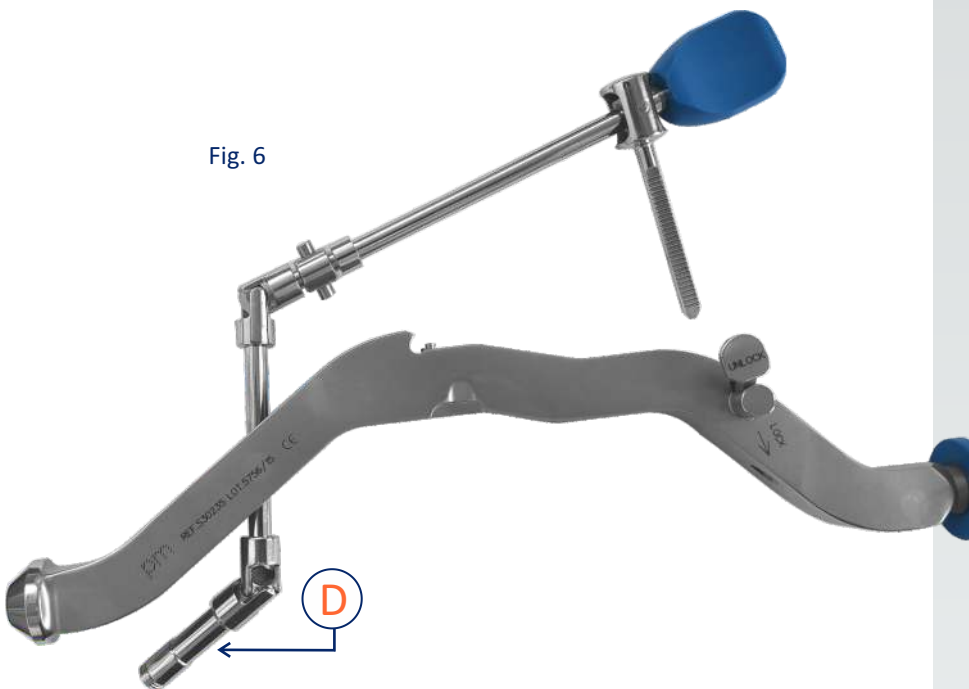

Fig. 6
- ② Extract the Articulated Rod by pulling it up in the central part and pushing down at the same time the knob.
- ③ Once the Articulated Rod is released, push the Unlock Button (C) for complete extraction (Fig. 6).
Although the Articulated Rod can be extracted to facilitate cleaning, it cannot be removed from the instrument (Fig. 6).